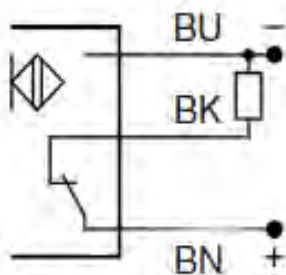

FIG. 4. Sensor Wiring Connections
6. Connect the sensors to your monitoring device according to your device's instructions. See FIG. 4 for sensor wiring connections. See **Technical Data** for electrical specifications.